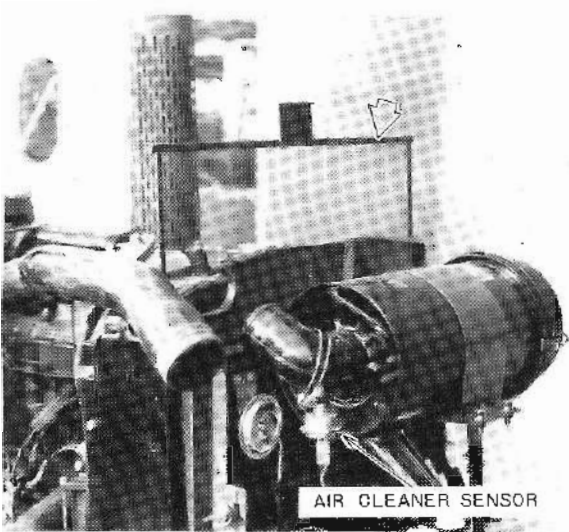

Figure 53 – Radiator Screen
5. Clean the radiator front screen, Figure 53.
In fields with much dust, or during works at night, the radiator net may be clogged with seeds of grass or worms. Before starting the engine, check and clean if clogged remarkably. Clogged net may cause the overheat of the engine. In such a case, disconnect the air cleaner hose from the air cleaner side, remove the radiator net and clean it, Figure 53.